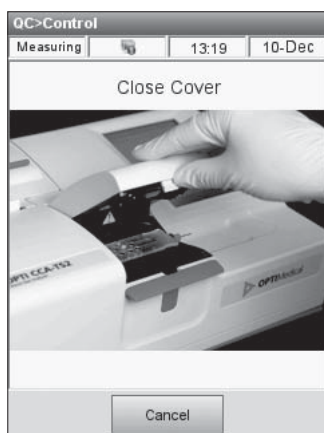

Fig. 4-18 Close Cover
8. Close the SMC cover (Fig. 4-18).